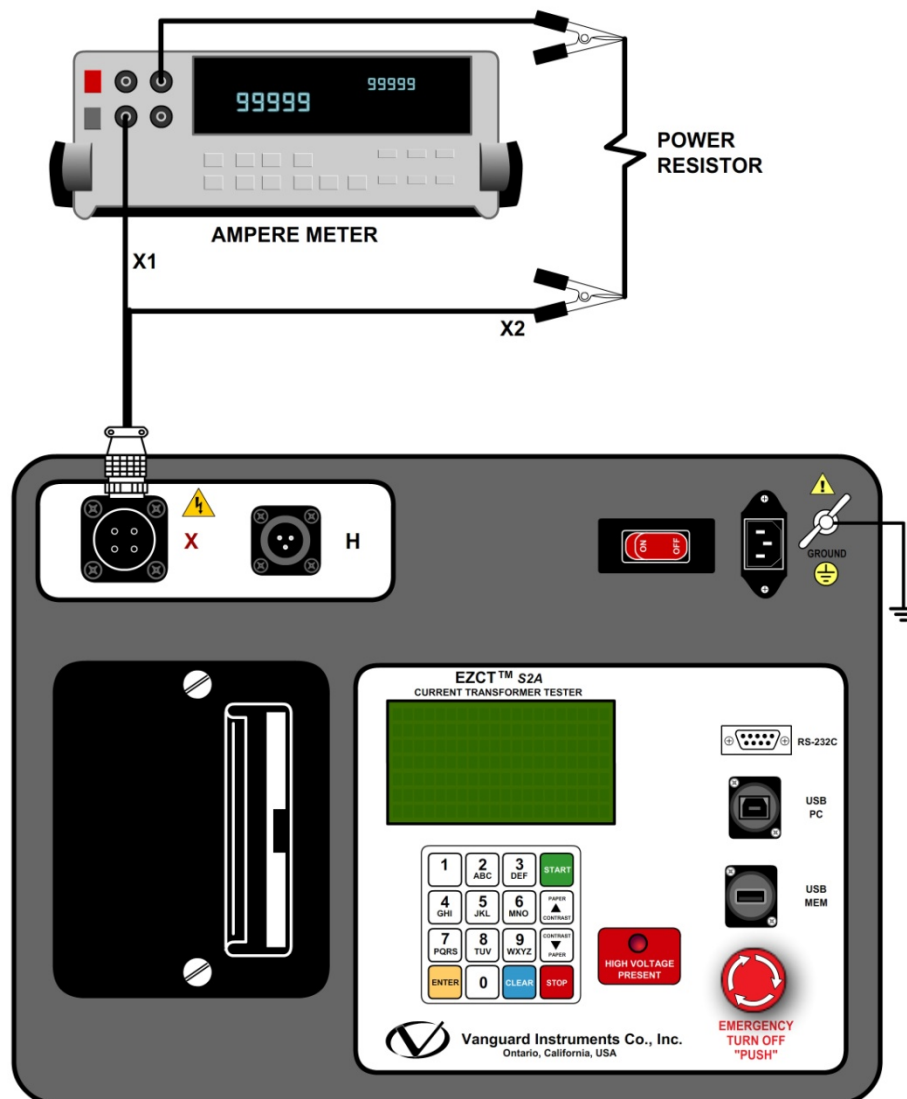

Figure 16. EZCT S2A I_x Verification Test Connections
- Connect the X cables to a power resistor and an RMS ampere meter as shown in Figure 16.